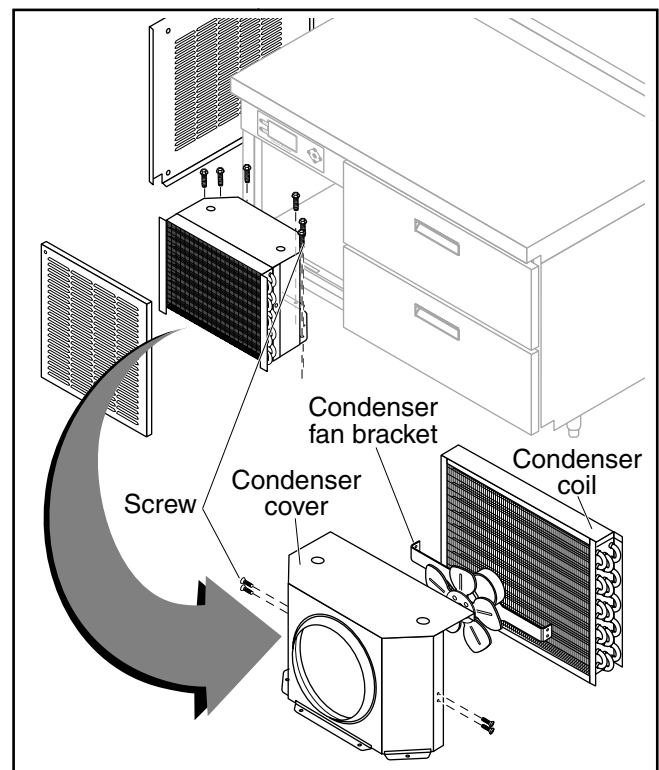

Figure 11. Condenser Fan Blade and Condenser Fan Bracket
6. Remove six screws securing the condenser coil inside the machine compartment (Figure 11).